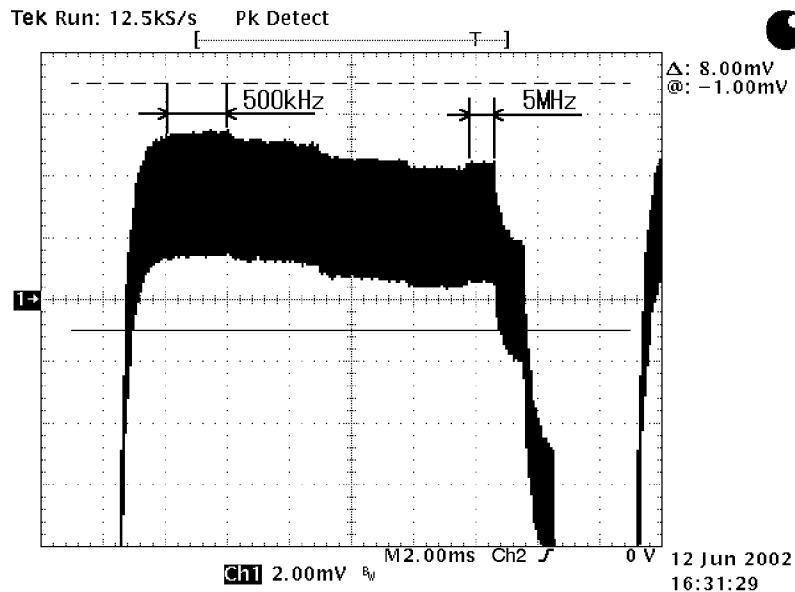

Figure 17: Verifying the signal amplitudes from 500 kHz to 5 MHz
11. Verify that the differences between the maximum amplitude and minimum amplitude from 500 kHz to 5 MHz are less than or equal to 3.5 mV. (See Figure 17.)